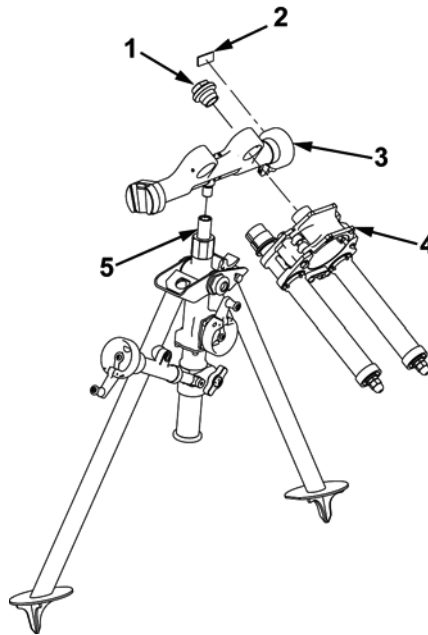

Figure 1. Disassembly of Recoil Mechanism Buffer and Traversing Mechanism.
1. Remove two recoil endcaps (Figure 1, Item 1) from recoil mechanism buffer (Figure 1, Item 4).
2. Remove recoil mechanism buffer (Figure 1, Item 4) from traversing mechanism (Figure 1, Item 3).
3. Fully extend elevation shaft assembly (Figure 1, Item 5) (TM 9-1015-257-10) and secure in vise. Rotate traversing mechanism (Figure 1, Item 3) to unscrew from elevation shaft assembly.
4. If damaged or illegible, remove Item Unique Identification (IUID) label (Figure 1, Item 2) from traversing mechanism (Figure 1, Item 3). Discard label. Remove adhesive residue with CLP.